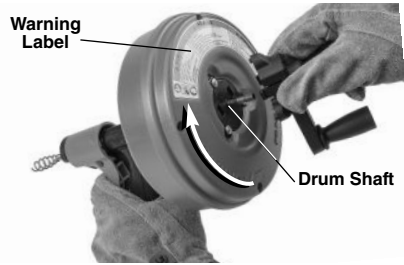

Figure 2 – Removing Crank Handle From POWER SPIN+
- Presence and readability of the warning label (see Figure 2.)
7. If using the POWER SPIN+ with a battery powered drill, remove the crank from the back of the drum by pressing the tabs on the either side (See *Figure 2*). Securely attach the chuck of the drill to the drum shaft.
7. Turn the drum clockwise (as marked with an arrow on the back of the drum, see Figure 2) and squeeze the drain cleaner trigger. Squeezing the trigger advances the cable into the drain.